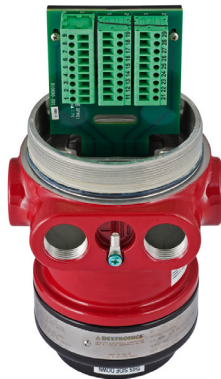

Figure 4—X9800 Terminal Block
1. Make field connections following local ordinances and guidelines in this manual. Refer to Figures 4 through 12.